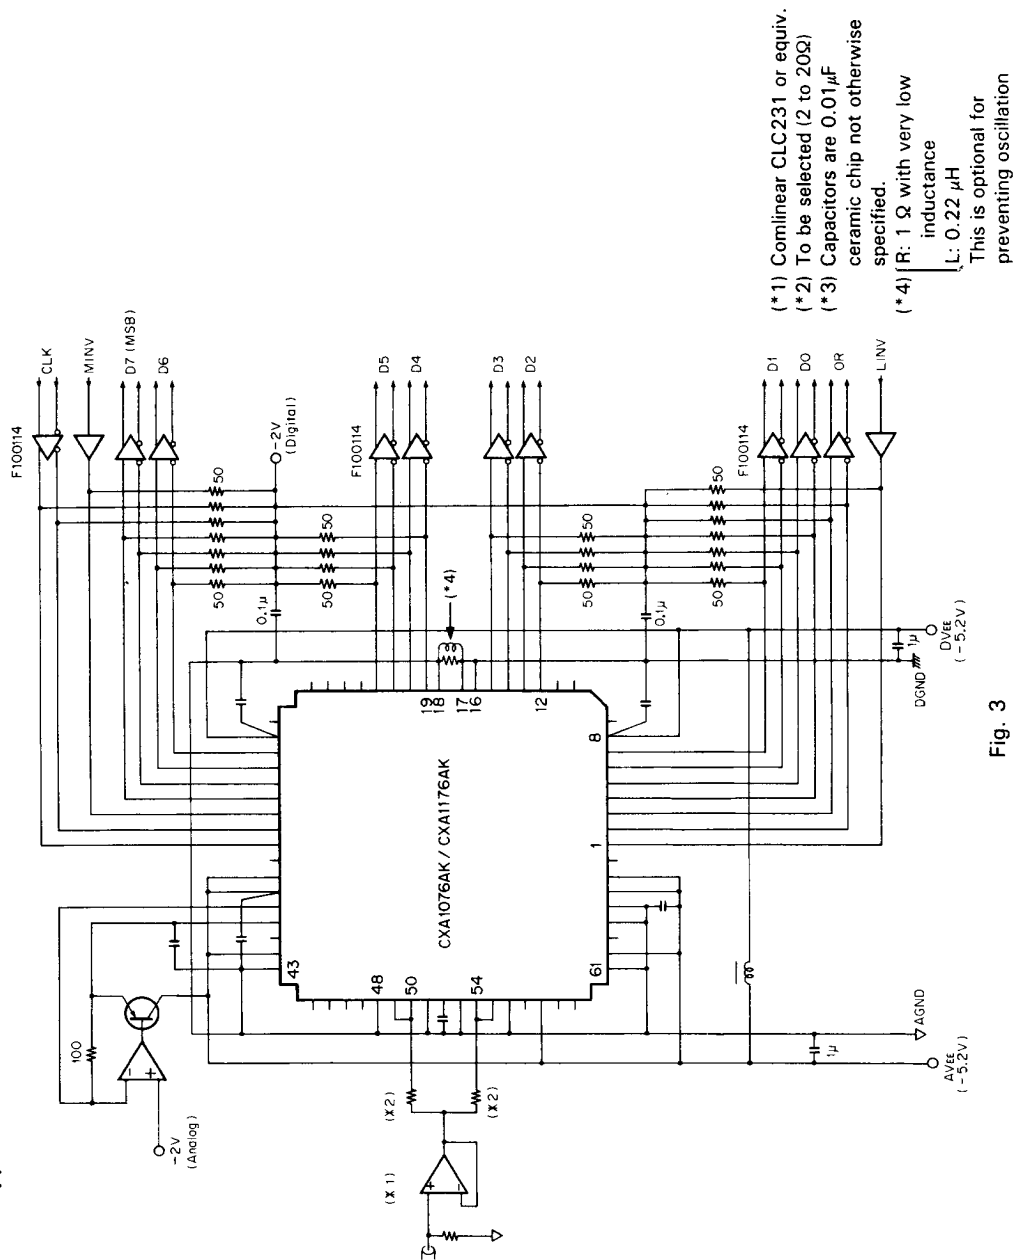

Fig. 3
- 7) As the analog input impedance of the device is capacitive, the driving amplifier occasionally falls into unstable condition and oscillates locally. This instability can be prevented with a resistor inserted in series between the output pin of the amplifier and V_{IN} pins of the device. The resistor is to be selected from 2 to 20 Ω . Separate input for V_{IN} as shown in an application circuit (Fig. 3) may give a good result.